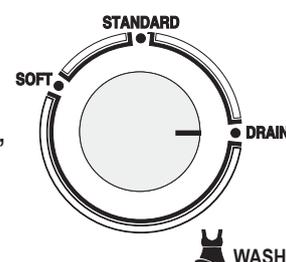

Figure 6
6. After the wash is completed, set the switch to the "DRAIN" position.(Figure6)